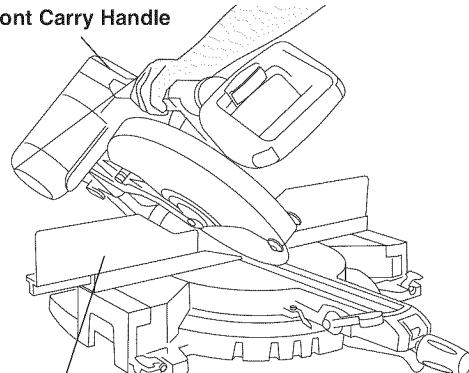

Figure 29.
1. Move the left sliding fence to clear saw assembly and re-lock (Figure 29). **45° - 0 Left**
4. Once in the desired bevel position, fully press down bevel lock lever below table height (Figure 29)..
1. Move right sliding fence to clear saw assembly and re-lock (Figure 29).
1. Move left and right-sliding fences to clear saw assembly and re-lock (Figure 29). **47° - 47° Max**